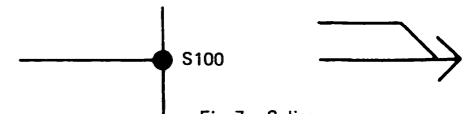

Fig. 7 – Splices
- Splice is shown in Figure 7. A splice is a common point where two wires are joined together. Location of splice is at bottom of schematic page.